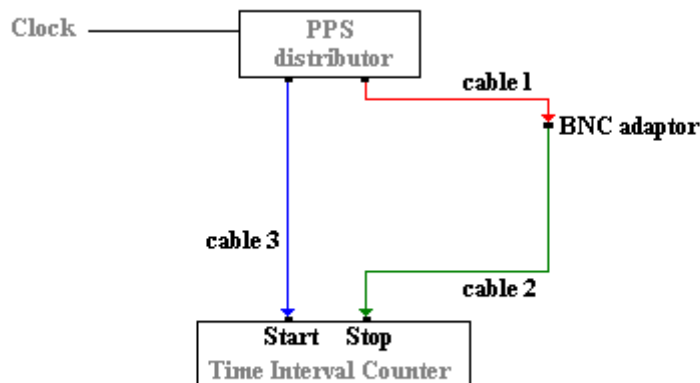

Figure 1. Determination of the tare of the measurement setup.
- a. This first measurement allows determining the tare of the measurement setup, as shown in Figure 1.